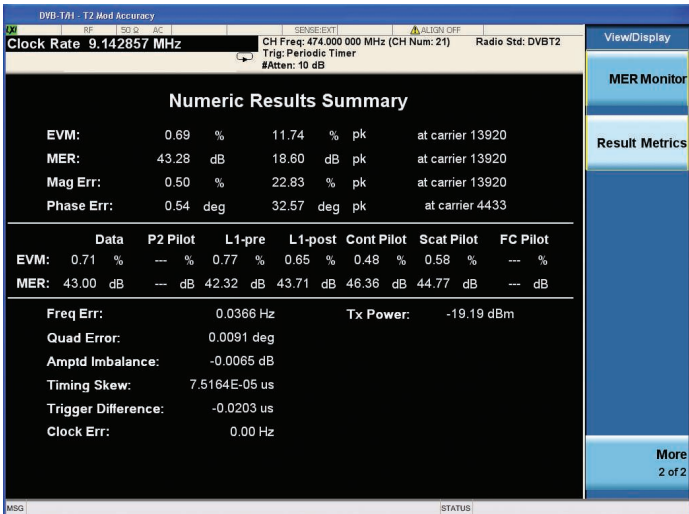

Figure 31. Result metrics view
- **Result metrics** view (Figure 31): Summary of all the result metrics
View the result metrics (Figure 31)	[View/Display] {More 1 of 2} {Result Metrics}